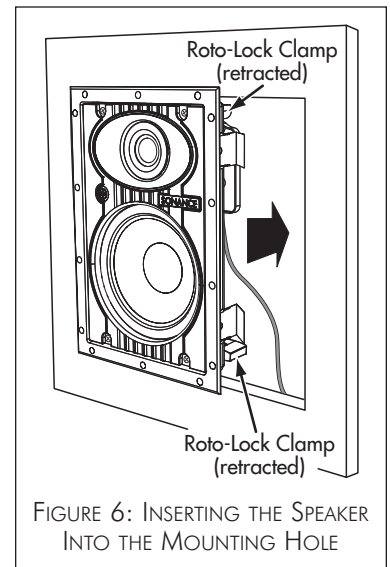

FIGURE 6: INSERTING THE SPEAKER INTO THE MOUNTING HOLE
4. Make sure all the Roto-Lock clamps are retracted so that they are tucked within the mounting hole's border. Insert the speaker into the hole in the wall (*Figure 6*). The Roto-Lock system can accommodate a maximum wall material thickness of 1 1/4" (32mm).